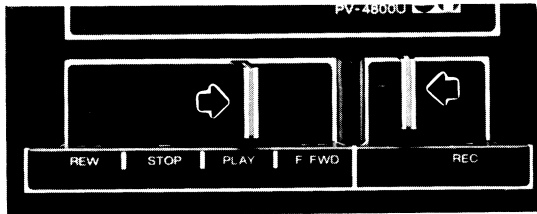

Fig. 1-16
3. Load a tape onto the PV-4800U. Move the Record lever to the left and set the Function lever to PLAY. (See Fig. 1-16.) Press the counter reset button to reset the tape counter to "000".